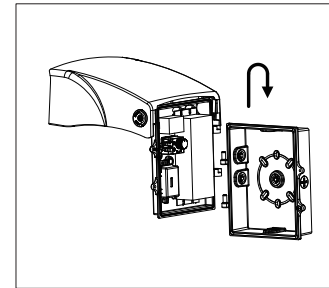
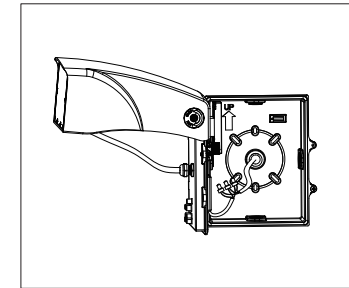

Figure 10
Figure 11
Step 7: Fasten the front housing to the back housing and connect the wires properly (Figure 10 & Figure 11);